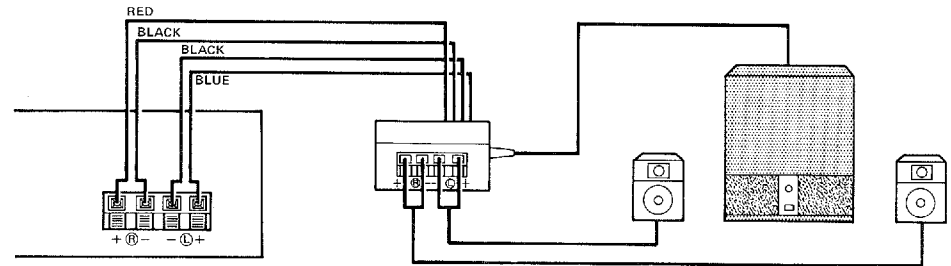

Fig. 1
1. If your amplifier does not have terminals for both A and B speaker pairs, connect the NS-W1 and the speakers to the mixing adaptor as shown in Fig. 1. The mixing adaptor connects to the speaker terminals on the rear panel of your amplifier as shown.